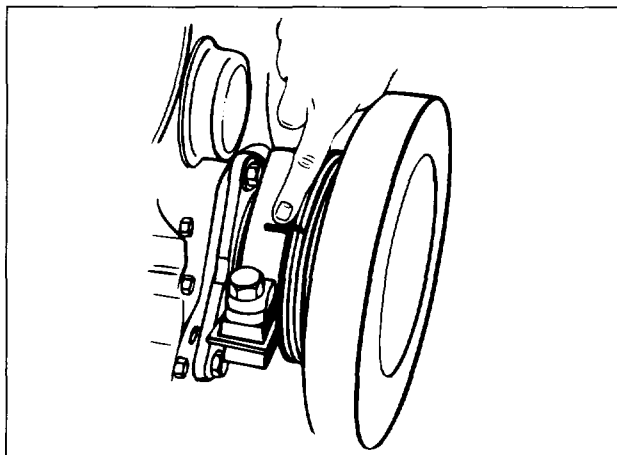

FIG. 3
4. Remove the timing bolt and replace the plug in the timing hole. Make a mark on the vibration damper and engine as shown in Fig. 3.